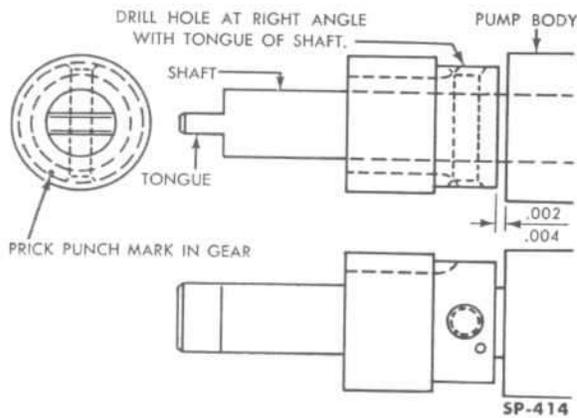

FIG. 78—LOCATING CAMSHAFT GEAR ON OIL PUMP SHAFT
- c. Press the drive gear on the lower end of the drive shaft, using a new key. As indicated in Fig. 78 the gear should be pressed onto the shaft until there is .002-.004 of an inch [.0508-.1016 mm.] clearance measured between the end of the camshaft gear and the pump body.